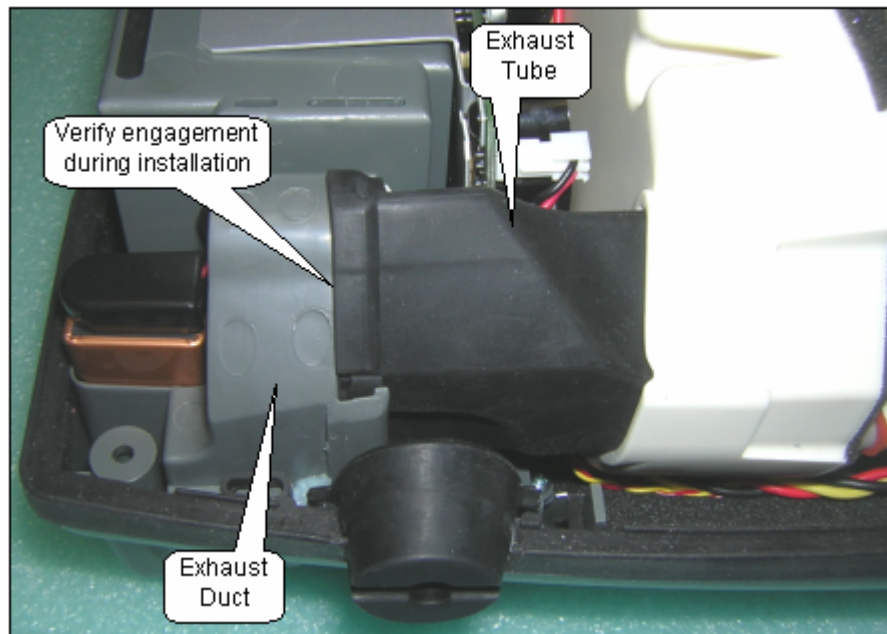

Figure 50: Exhaust Tube Removal.
4. Remove the Exhaust Tube as shown in Figure 50.
12. Hold onto the Compressor Box and lift the Bottom Case into a standing position. Insert the Exhaust Tube into the slot of the Exhaust Duct as shown on Figure 50 above. Ensure that it is secure without any gaps.